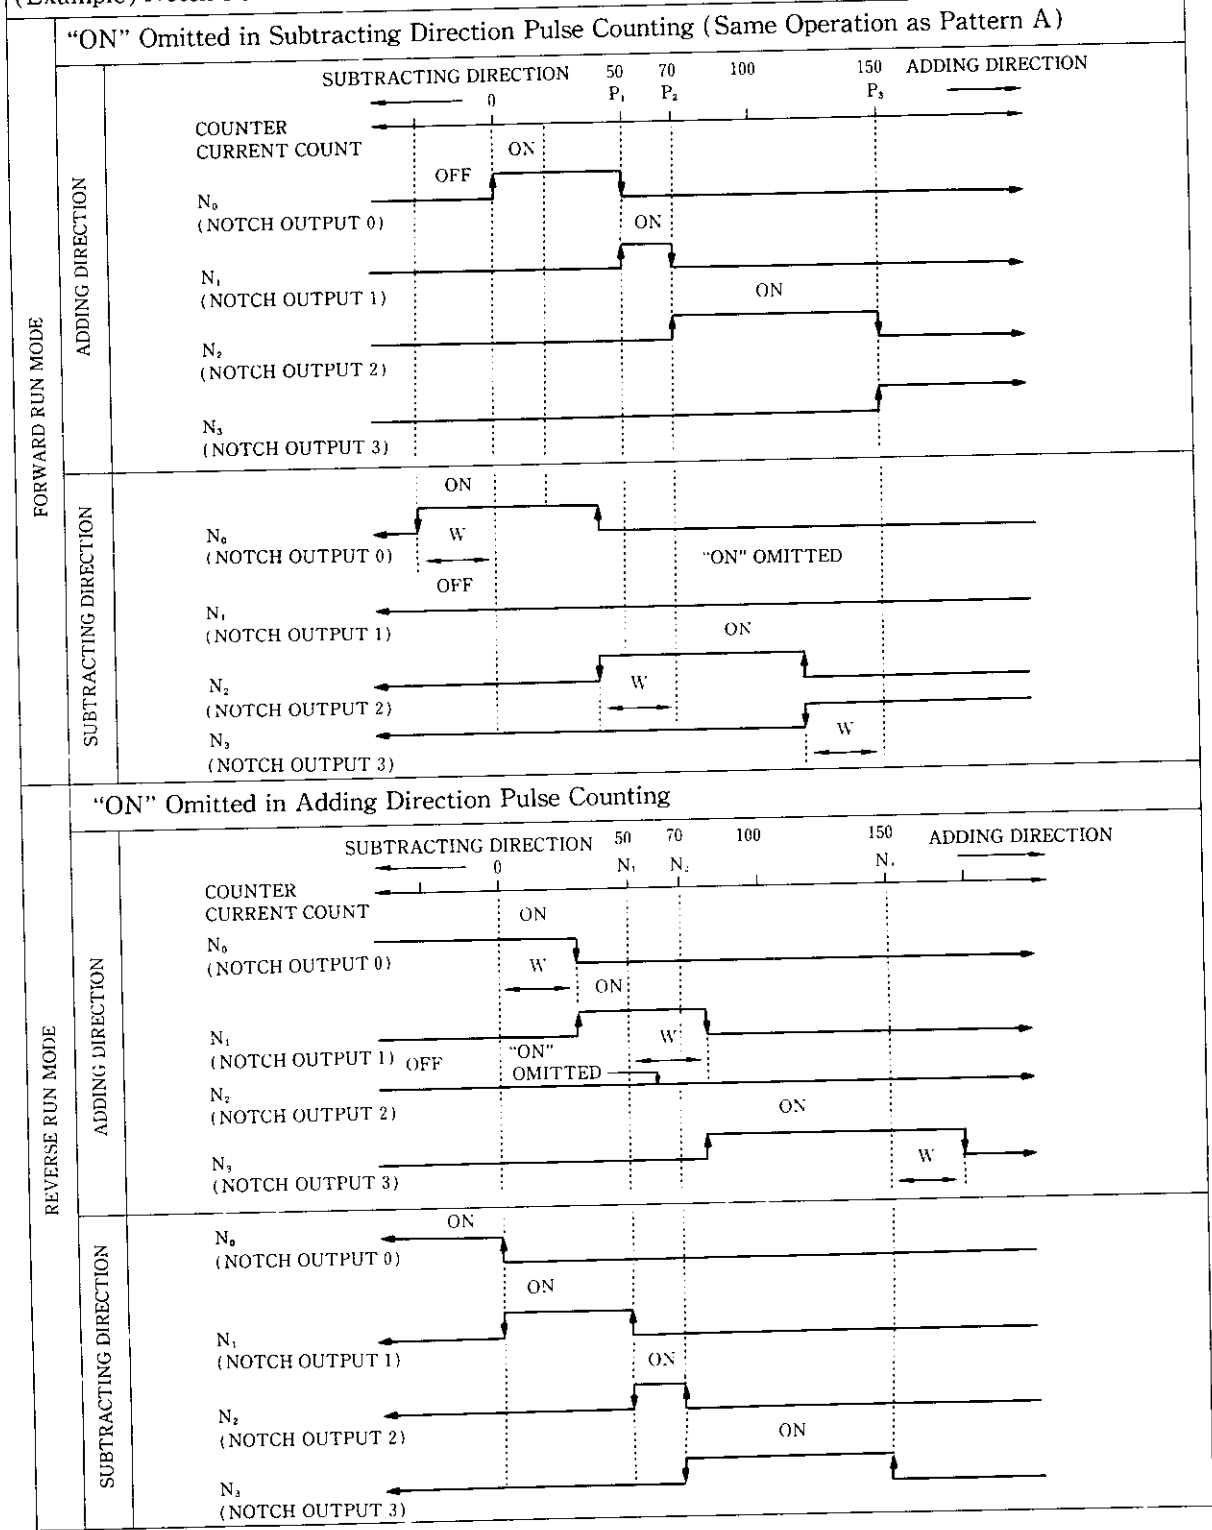

Fig. 4.24 When Hysteresis Width > Notch Point Interval (Pattern B)
- (d) When the notch point setting intervals including the current count 0 point are narrower than the hysteresis width, the notch output is turned on at the set value in the adding direction, and in the subtracting direction, some notch outputs are not turned on due to the hysteresis operation, and vice versa. (Fig. 4.24)